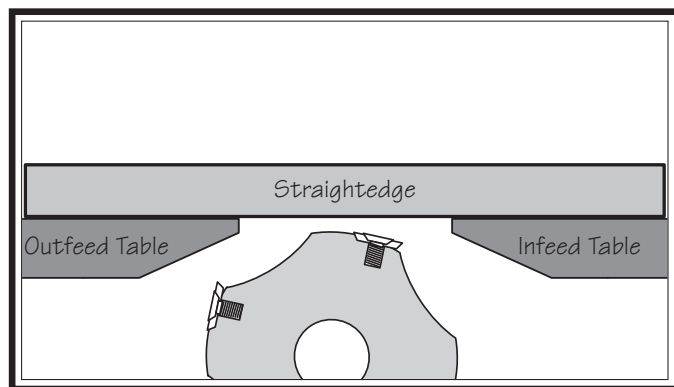

Figure 43. Infeed and outfeed tables set evenly.
4. Place straightedge halfway across infeed table and halfway over outfeed table, and adjust infeed table even with outfeed table, as shown in **Figure 43**.